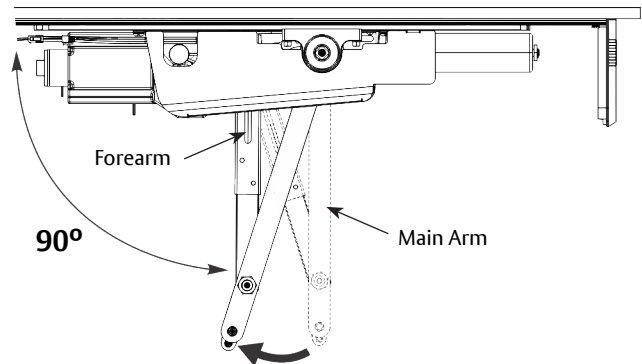

Figure 29 View from ceiling looking downward
5. With door closed, rotate main arm away from hinge until forearm is perpendicular (90 degrees) with door. (Figure 29)